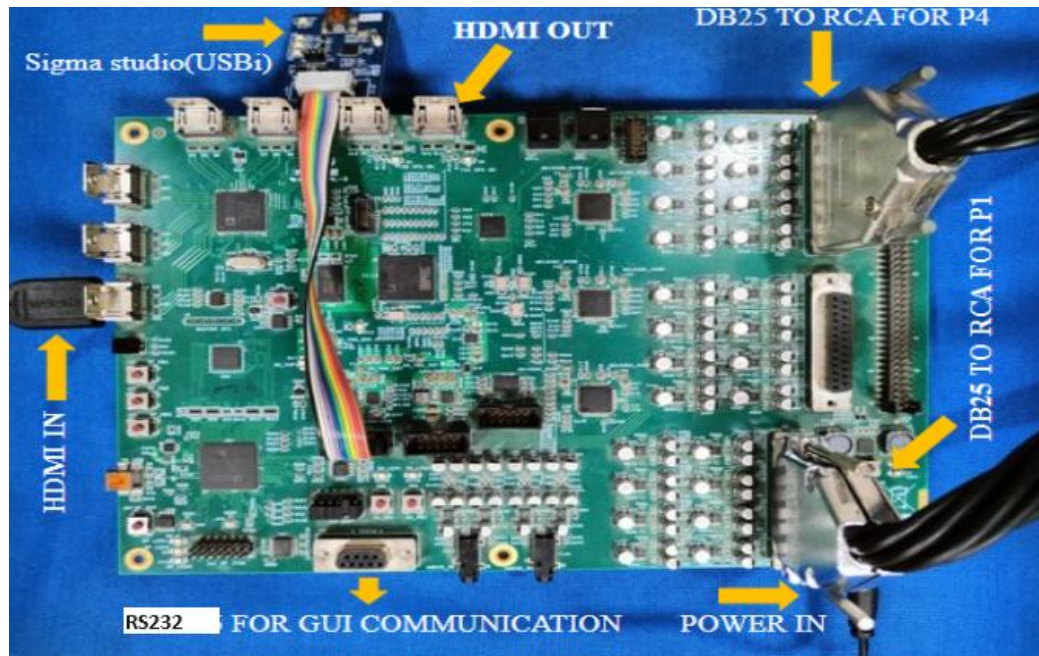

Figure 1 Overall connection of EVAL-MELODY-8
- As in the buffer flow diagram in Figure 1, the input PCM/Encoded audio is received in PackBuffer.